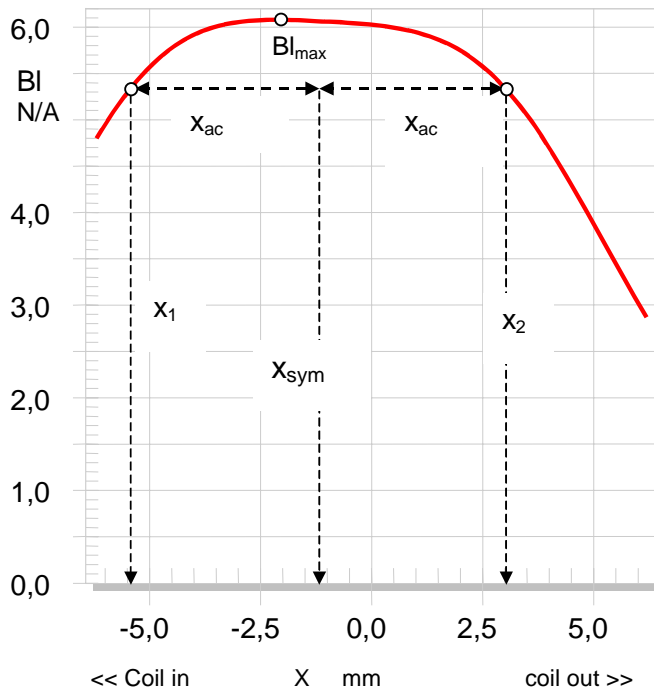

Fig. 2: Definition of the symmetry point X_{sym} in the nonlinear force factor characteristic $Bl(x)$.
The definition is illustrated in Fig. 2 showing a $Bl(x)$ -curve measured by the Large Signal Identification (LSI) module of the KLIPPEL R&D system (curve not available in MSC):
1. Select a BI-value which is smaller or equal than Bl_{max} as illustrated in Fig. 2.